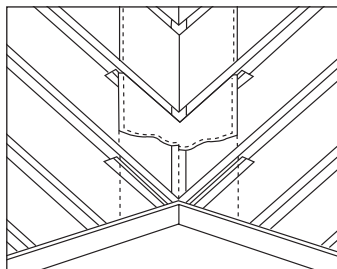

Fig. 1 – Construction of valley boards
- 1 In all cases, valley boards should be fitted. Valley boards may be inset or continuous over the rafters. Where they are inset, they should be a minimum of 12mm thick and supported on bearers or noggins of 50 x 25mm or similar and set at a depth to suit the thickness of the valley board (Fig. 1).